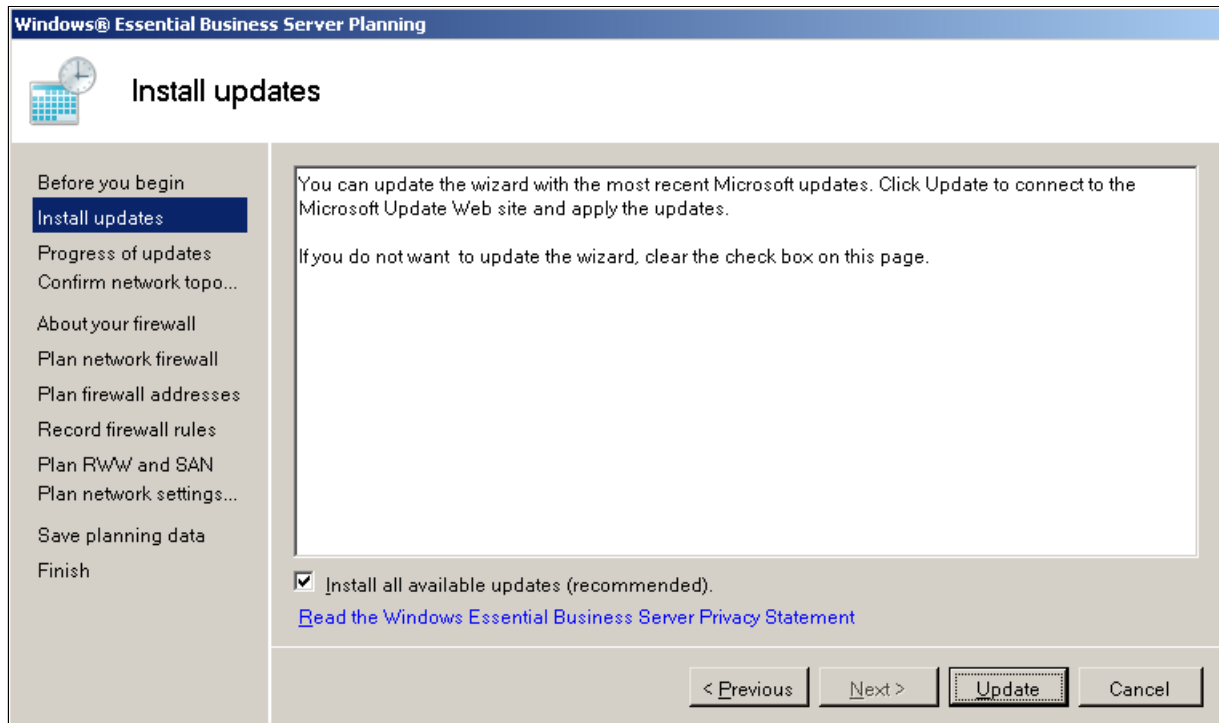

Figure 3-9 Planning Wizard update
2. Click **Update** on the “Install updates” panel (Figure 3-9) to search for any updates to the wizard.